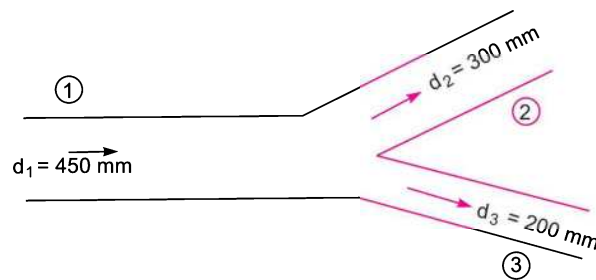

Fig. 5.57
34. A pipe (1) 450 mm in diameter branches into two pipes (2) and (3) of diameters 300 mm and 200 mm respectively as shown in Fig. 5.57. If the average velocity in 450 mm diameter pipe is 3 m/s, find : (i) discharge through 450 mm dia. pipe and (ii) velocity in 200 mm diameter pipe if the average velocity in 300 mm pipe is 2.5 m/s. (J.N.T.U., Hyderabad, S 2002)